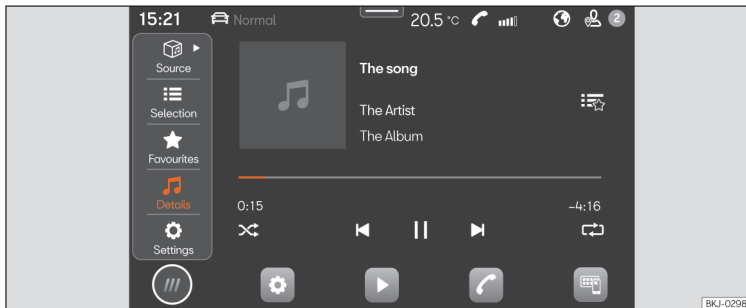

Fig.131 Schematic representation: Multimedia view
- Press **HOME** > ► >>> **Fig. 131**.